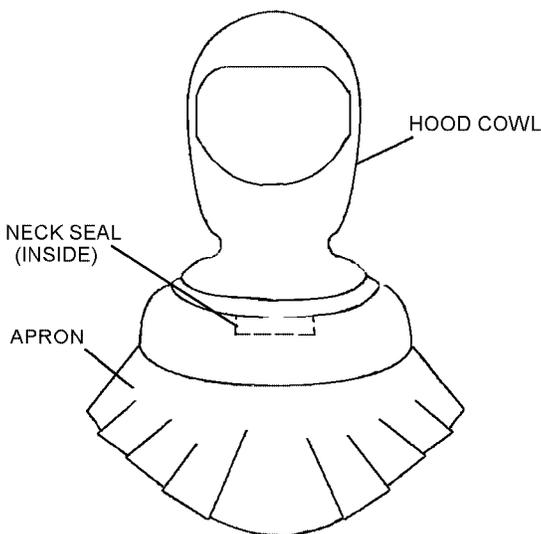

Figure 4-6. Hood Assembly
**4-8. Hood Assembly.** The hood assembly, shown in figure 4-6, is made of bromo-butyl rubber, covers the entire head and is bonded to the faceplate, neck seal and bellows. The neck seal, available in two sizes: standard and small, is made of natural rubber and, together with the hood and faceplate, isolates the head and neck. The (V)2 through (V)4 variants include a modified hood which allows for increased head mobility. The hood cowl is available in three sizes: extra-small, standard and extra-large.